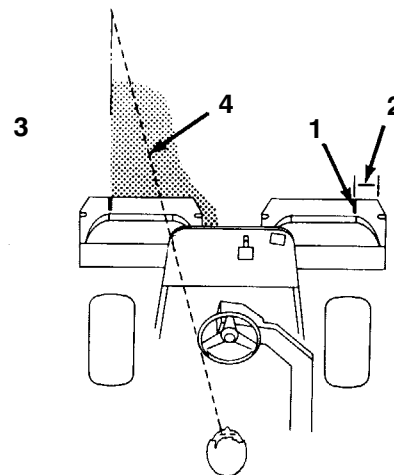

Figure 29
3. Overlap a minimal amount with the previous cut on return passes. To assist in maintaining a straight line across the green and to keep the machine an equal distance from the edge of the previous cut, establish an imaginary sight line approximately 6 to 10 ft. (1.8 to 3 m) ahead of the machine to the edge of the uncut portion of the green (Fig. 29). Some find it useful to include the outer edge of the steering wheel as part of the sight line; i.e. keep the steering wheel edge aligned with a point that is always kept the same distance away from the front of the machine.